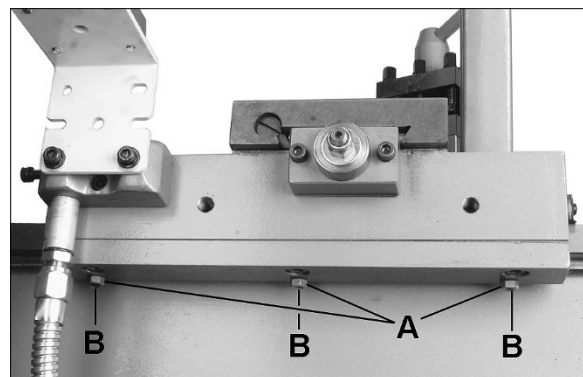

Figure 11-2
2. Loosen three hex nuts (A, Figure 11-2) at rear of saddle.
3. Turn each of the three set screws (B, Figure 11-2) equally with a hex wrench until a slight resistance is felt. Do not overtighten, which can cause premature wear of parts.